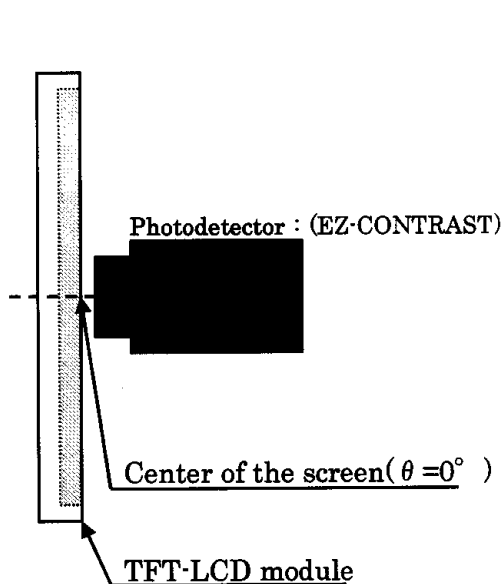

Fig.2-1 Viewing angle range/Response time measurement method
* The optical characteristics measurements are operated under a stable luminescence (I_{LED} = 20mA) and a dark condition. (Refer to Fig.2-1,2-2)